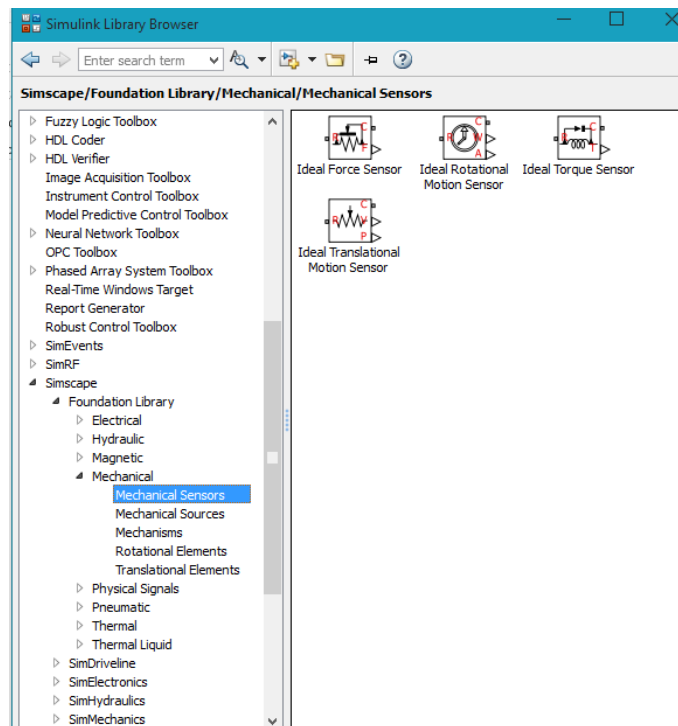
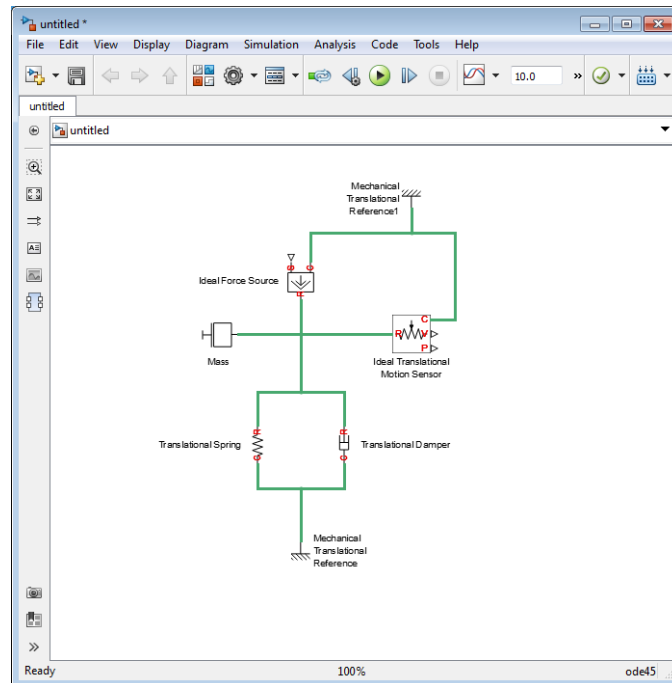

Figure 3.7: Mechanical Sensors Library
Figure 3.8: Block Diagram
8. Add the sensor to measure speed and position of the mass. Place the Ideal Translational Motion Sensor block from the **Mechanical Sensors** library figure 3.7 into your diagram and connect it as shown in figure 3.8.